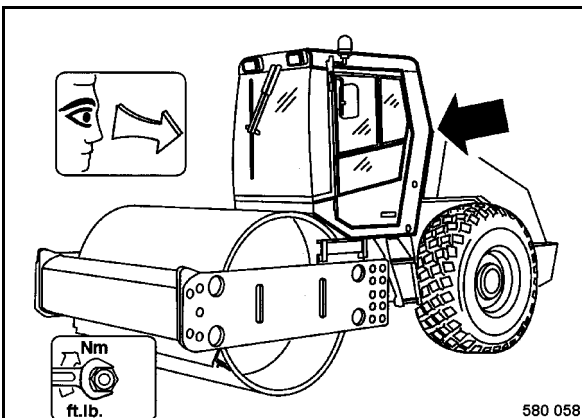

Fig. 96
- Check the cabin, especially the ROPS (Fig. 96) for cracks, corrosion, damage and missing fastening elements.